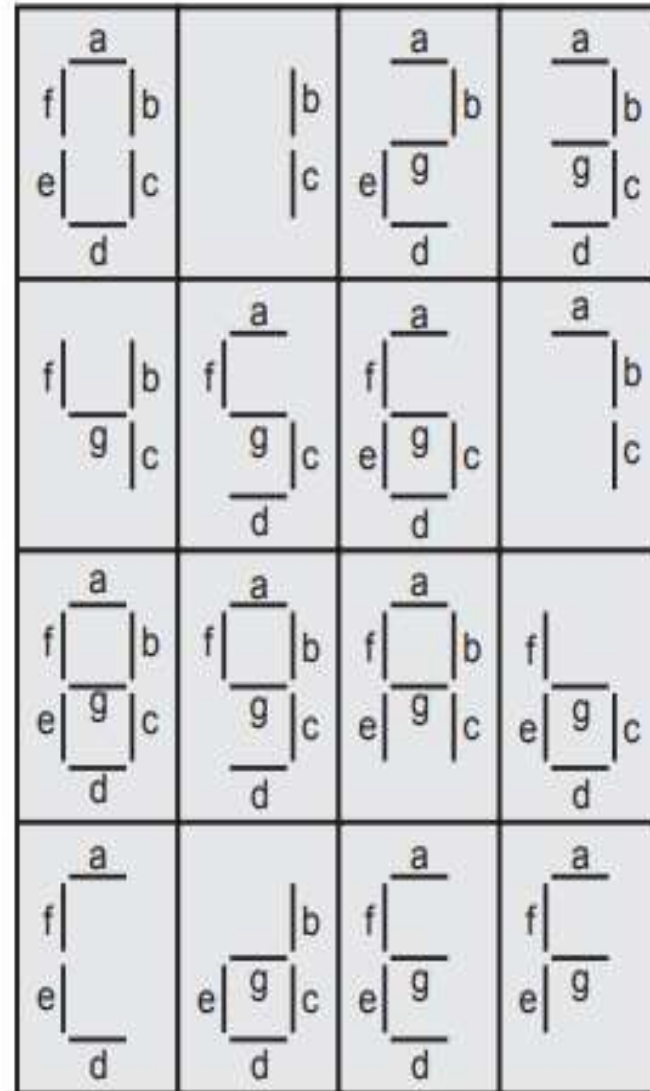

Fig. 3.6.2 Display of hex characters using seven-segment LEDs
- All hex character from 0 to F can be conveniently displayed using seven segment LED displays as shown in Fig. 3.6.2.